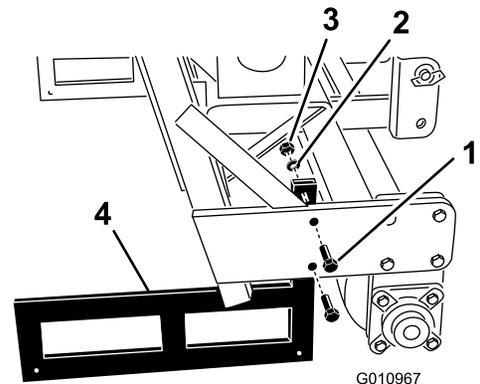

Figure 33
2. Remove the bolts and nuts securing the storage stands to each end of the aerator (Figure 33).